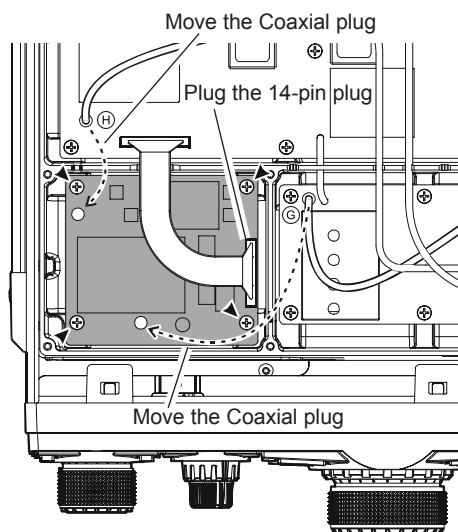

FIGURE 3
4. Mount the SCOPE Unit using the supplied four screws (Figure 3).
5. Referring to Figure 3, plug the 14-pin plug which was removed from the chassis in the previous step into the J7002 connector on the SCOPE Unit.